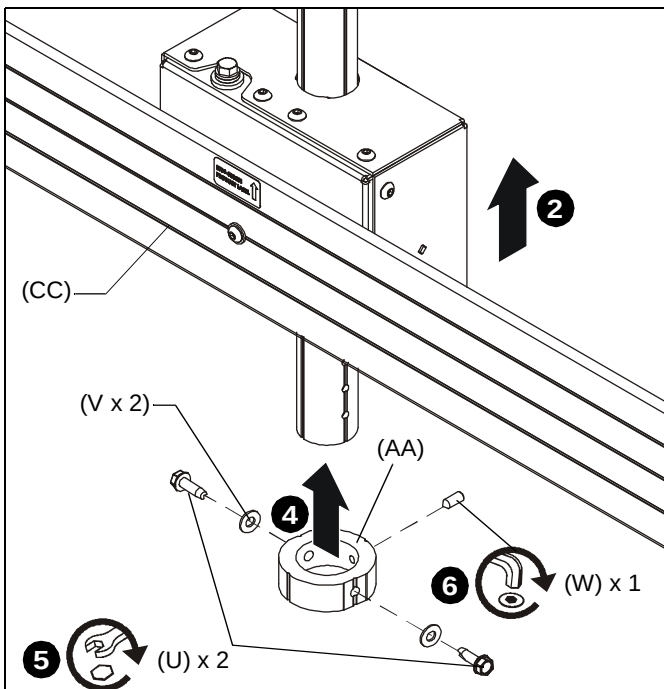
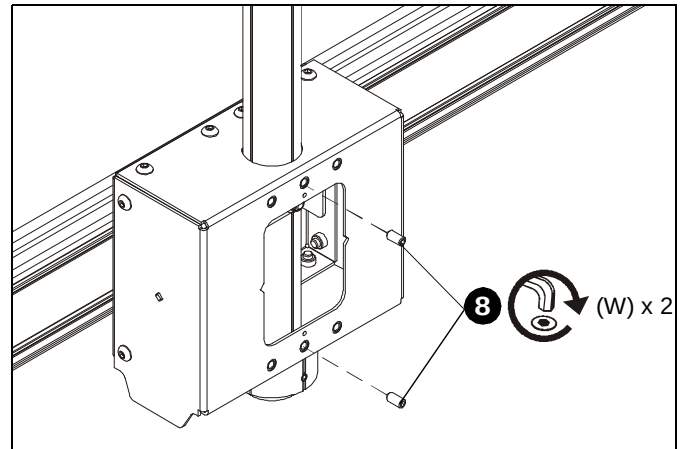

Figure 5
Figure 6
2. Slide ceiling mount (CC) up from below onto installed column (not included). (See Figure 5)
4. Slide bottom stop collar (AA) onto installed column, lining up holes in collar with holes in column.
5. Install two 5/16" x 1" self-tapping screws (U) through two 5/16" flat washers (V), bottom stop collar (AA), and into installed column. (See Figure 5)
6. Install and tighten 5/16" x 3/4" set screw (W) into bottom stop collar (AA). (See Figure 5)
7. Loosen two installed set screws (W), and slide ceiling mount down extension column until it rests on the bottom stop collar (AA).
8. Retighten two 5/16" set screws (W) against column. (See Figure 6)